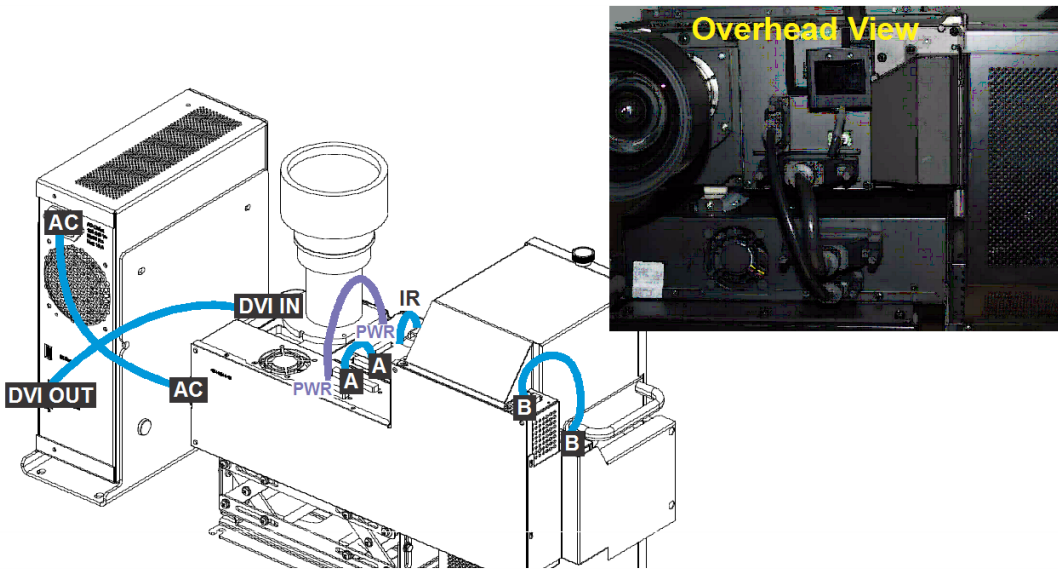

FIGURE 2-1 INTERNAL CABLE CONNECTIONS
Verifying all cable connections are secure. See Figure 2-1.
8. Reconnect all cables disconnected previously in step 2. Refer to Figure 2-1.